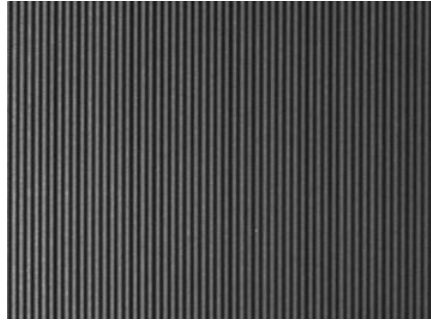

Figure 17 Good Images
17. May refer to Figure 17 to 20 for failure detection.